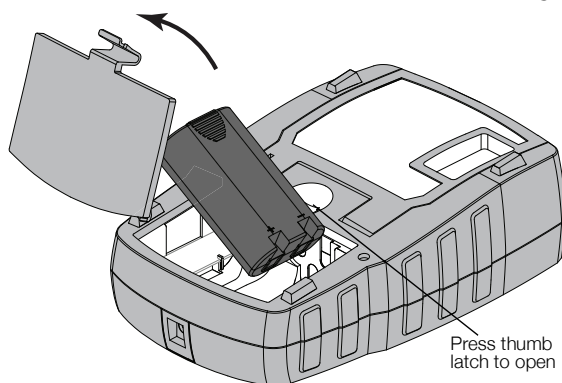

Figure 4
- 1 Press the thumb latch on the back of the printer to remove the battery compartment cover. See Figure 4.
- 2 Insert the battery pack into the battery compartment following the polarity markings. See Figure 4.